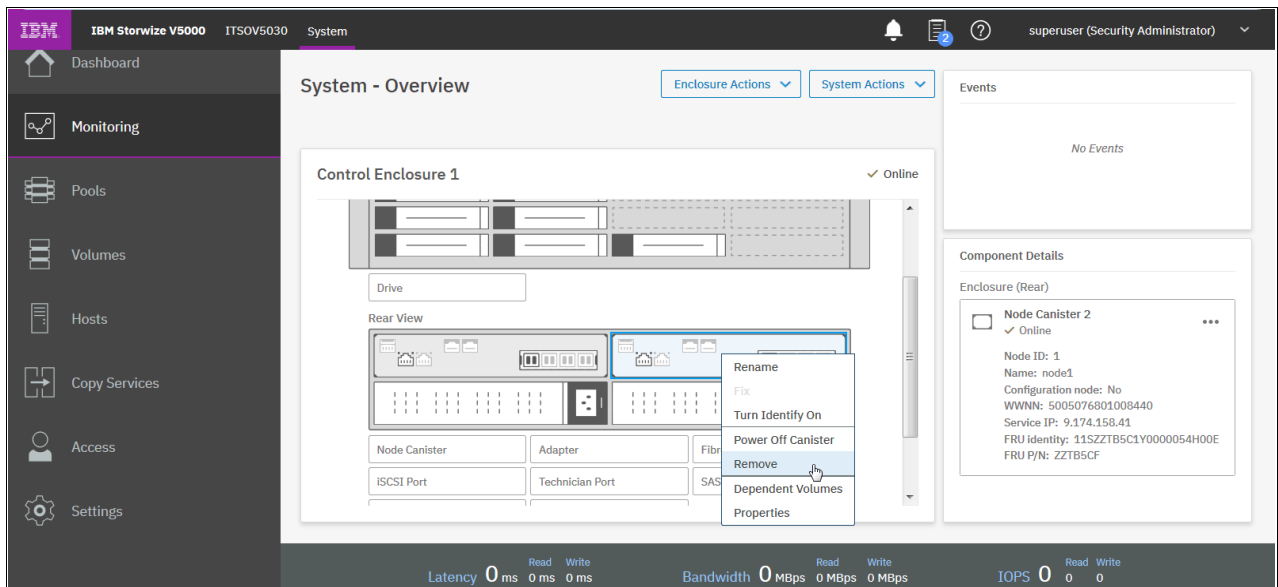

Figure 12-53 Removing a node canister
- Right-click the canister that contains the node that you want to update and select **Remove**, as shown in Figure 12-53.